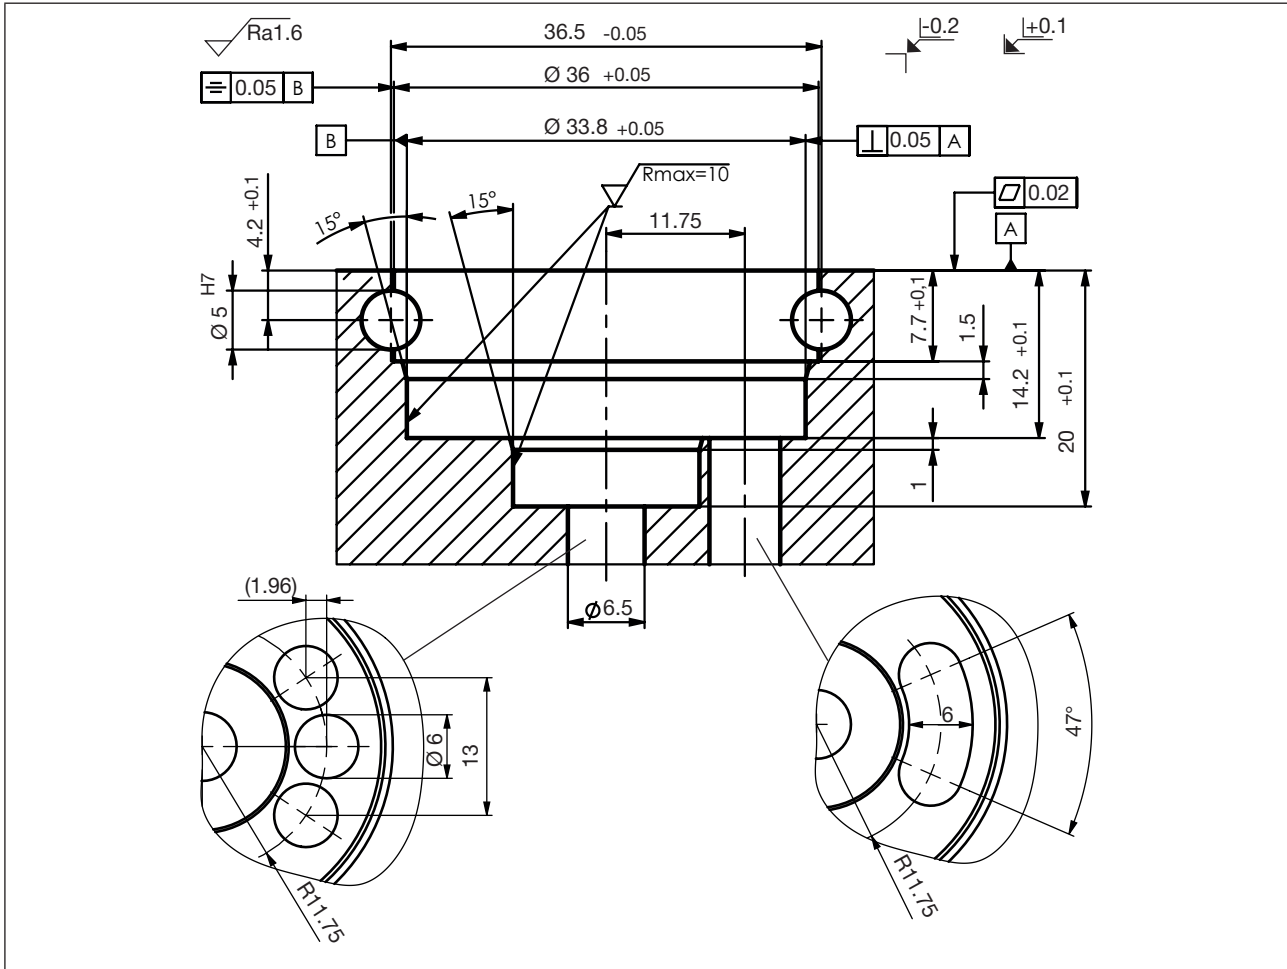

Fig. 10: Installation area for cartridge body, seat size 1 to 6
- Install valve (see “Fig. 10”) and align. When installed, the valve can no longer be turned.